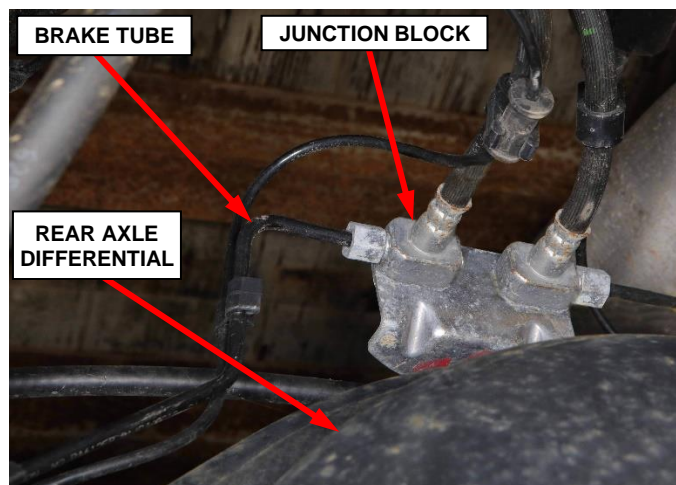

Figure 5 – Brake Tube Junction Block
6. Disconnect the brake tube from the junction block above the rear axle differential (Figure 5).
2. Connect the brake tube to the junction block above the rear axle differential. Tighten the brake tube flare nut to 20 N·m (15 Ft. Lbs.) (Figure 5).